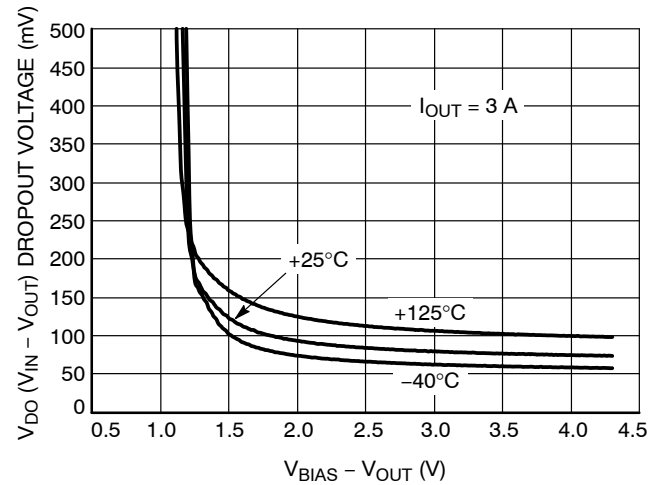

Figure 8.  $V_{IN}$  Dropout Voltage vs.  $(V_{BIAS} - V_{OUT})$  and Temperature  $T_J$
3. 3.25 V is a test condition of this device and can be adjusted by referring to Figure 8.